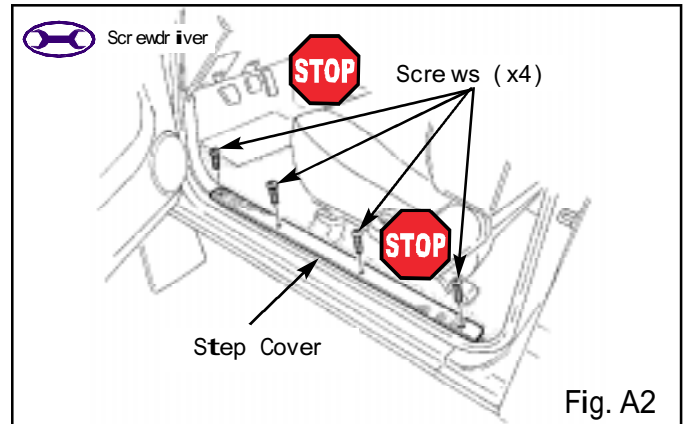

Fig. A2
2. Remove the driver's step cover. (Fig. A2)